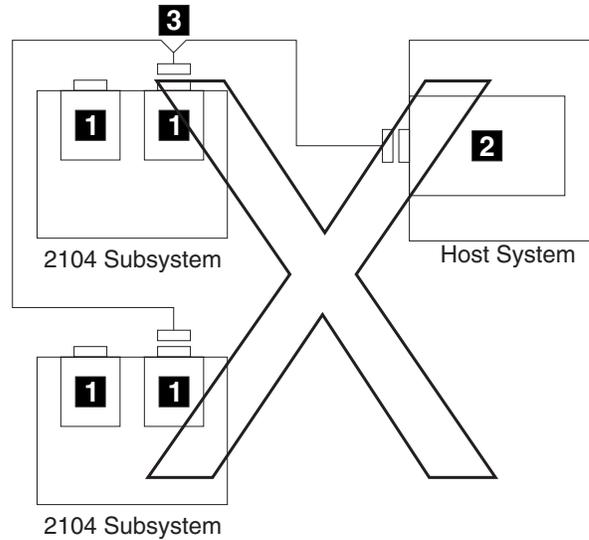

Figure 45. One adapter in one host system connected to two 2104 Model TS4s through a Y-cable (1). This configuration is invalid.
Figure 45 shows one adapter in one host system connected to two 2104 Model TS4s through a Y-cable (1).